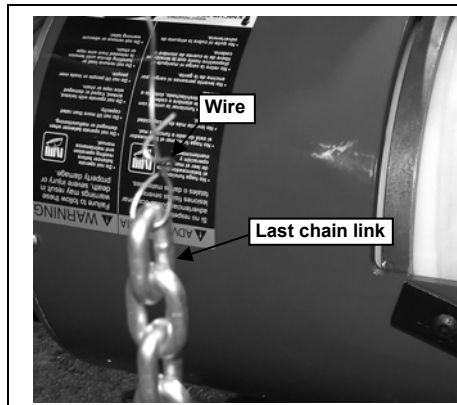
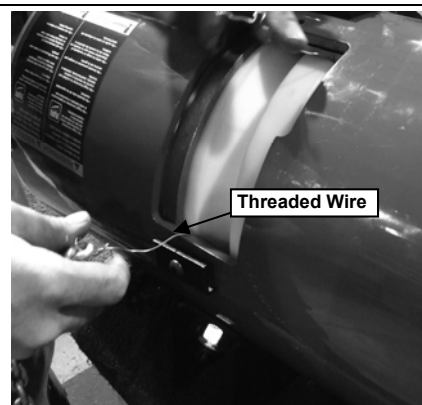

Figure 4-13
Figure 4-14
- Step 10. Connect a stiff wire to the last chain link on new chain and thread the wire around the top of the second to last groove from the left and pull the chain around the spool. (See Figure 4-13 and Figure 4-14)